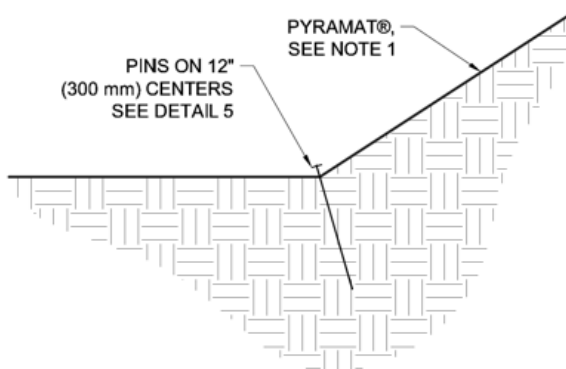

Figure 15: Break in slope interface
- At the break in slope interface towards the channel bed, it is suggested that Pins be installed on 12 in (300 mm) centers (Figure 15).